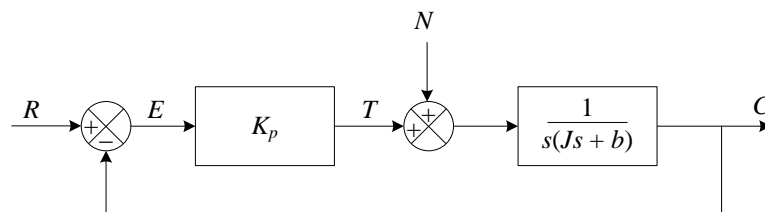

Figure 1
5. Identify different blocks in the control system shown in Figure 1 and then search for correct blocks in the Library Browser.
7. Placing the mouse cursor over the arrow of a block. Hold the left click of the mouse, a red dotted line will appear. Move the line to another block for making a connection. The result will be similar to Figure 1.
8. In this control system the proportional controller (with proportional gain = K_P) delivers torque T to position the load element, which consists of moment of inertia (J) and viscous friction (b). The torque disturbance to the system is denoted by N . Determine the steady-state error due to a unit-step disturbance torque when the reference input $R(s) = 0$.